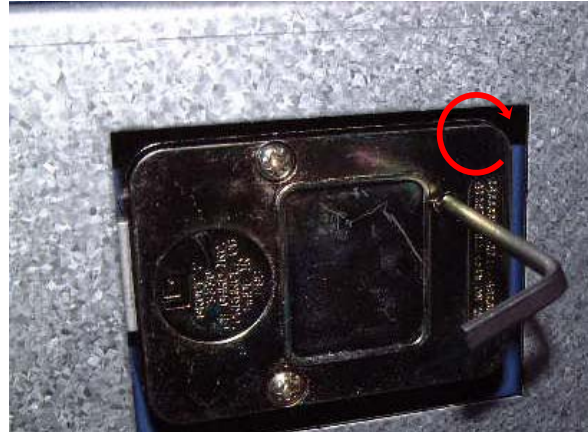

Fig.5.5
- 6) Push the change bar completely until it is held by the dial change home (Fig.5. 4) inside the safe door and turn to the clockwise by 90 degrees (Fig.5.5).